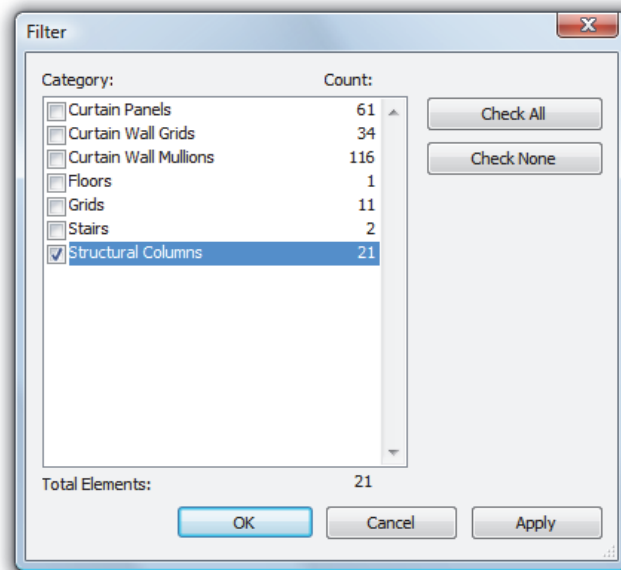

**FIGURE 7-3.9**
17. Click the **Filter** icon at the lower right corner of the window; see Figure 7-3.9.